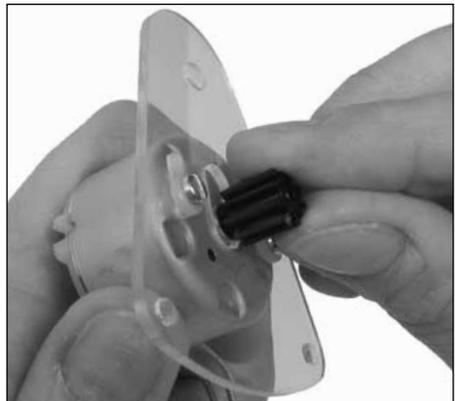

Figure 2
3. Press the pinion gear onto the end of the motor post, making sure the post end is flush at the other side of the gear (Figure 2).